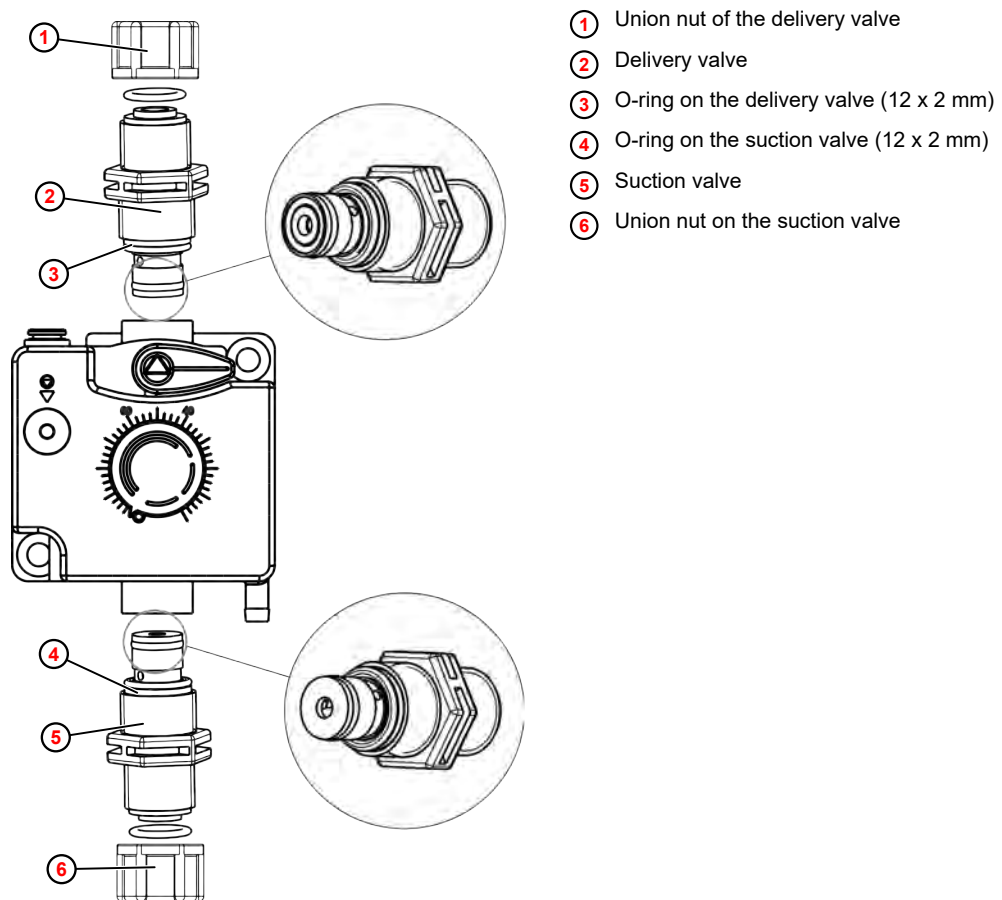

Fig. 18: Replace the suction/delivery valve
1. ➤ Remove the pump head ② as described in section *Replace the membrane cartridge*.
2. ➤ Unscrew and remove the suction valve ⑩ and delivery valve ⑨ with a spanner (SW22).
3. ➤ Clean the membrane cartridge ③ on the contact surfaces ⑧ to the pump head ②.
5. ➤ Screw in and tighten the suction valve ⑩ and delivery valve ⑨ with the new O-rings (Fig. 18 , ③ , ④).